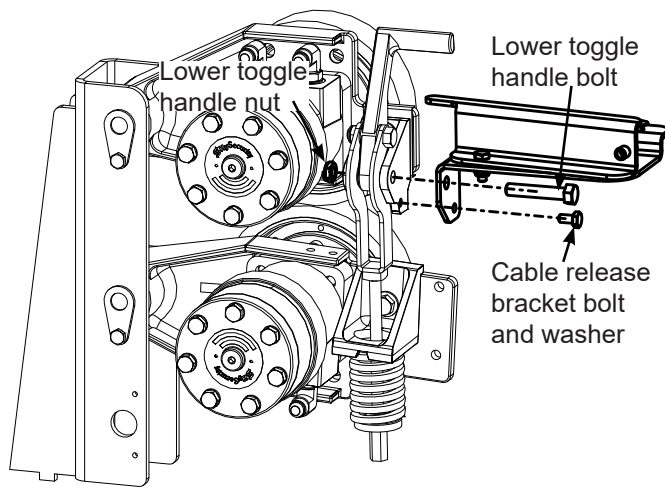

Figure 5. Attach the Cable Release Bracket
7. Install the cable release bracket (Figure 5).